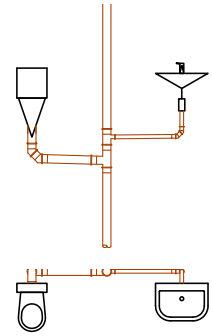

Figure 5
- For similar drainage objects, arrange a double branch at 180° as shown in Fig. 5.